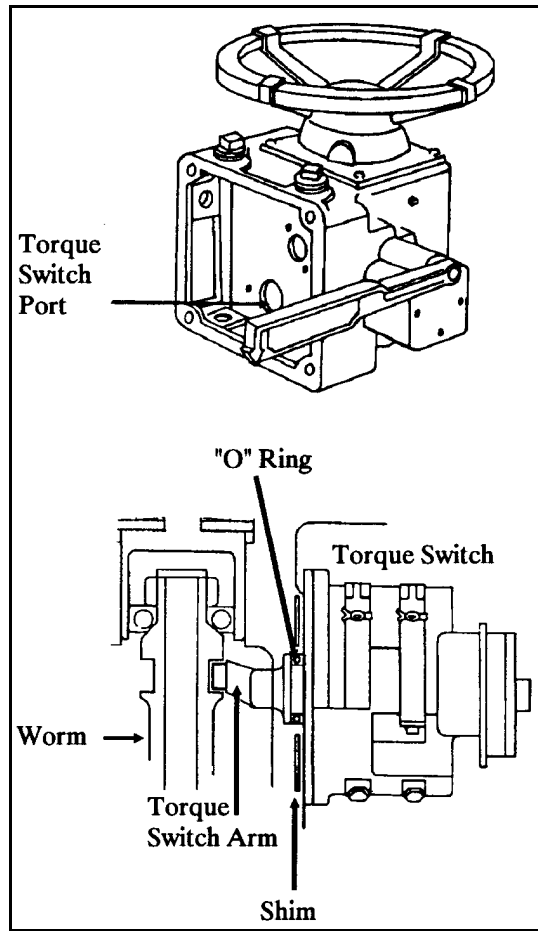

Figure 4-50 Torque Switch Installation
29. Torque Switch Installation Refer to Figure 4-50